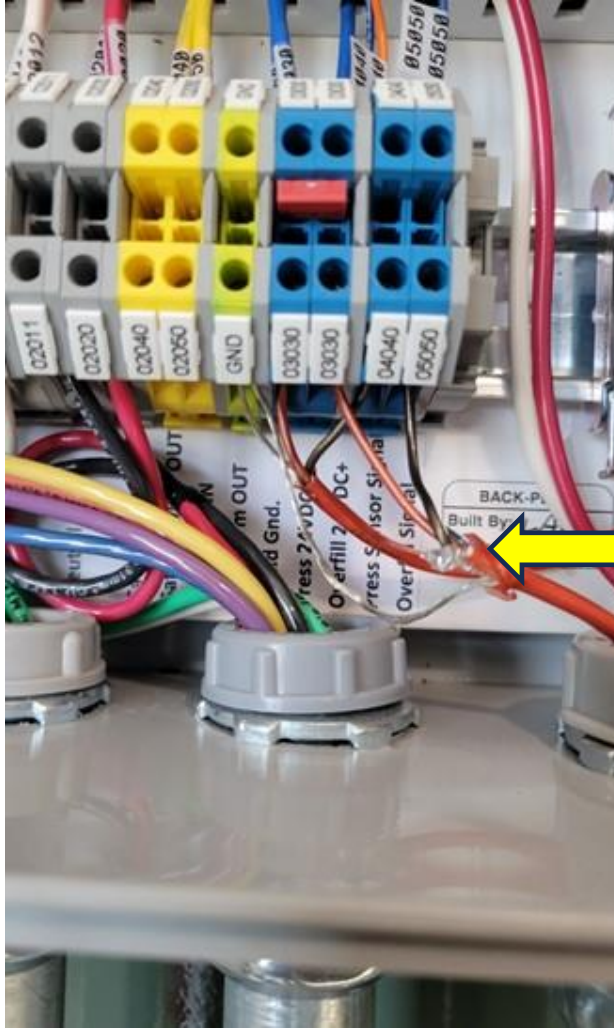

Figure 3-5: GREEN MACHINE Control Panel Connections
- e. The shielded cable is connected to the VST Control Panel: **See Figure 3-5**
See Figure 3-5 & 3-6.